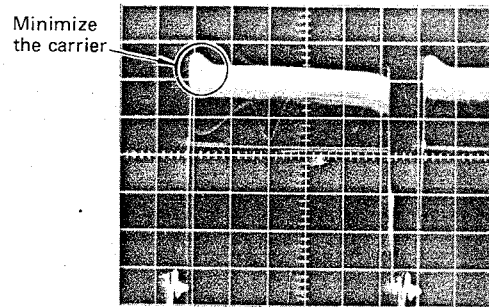

Fig. 6-4-12
- Adjust H. LINEARITY VR223 so that the carrier (3.58MHz) on the starting portion of Y signal at TP303 is minimum (Fig. 6-4-12), and the starting portion of Y signal becomes as flat as possible. At this time, the picture will have minimum disturbance (color shading) on the left side on the color monitor.